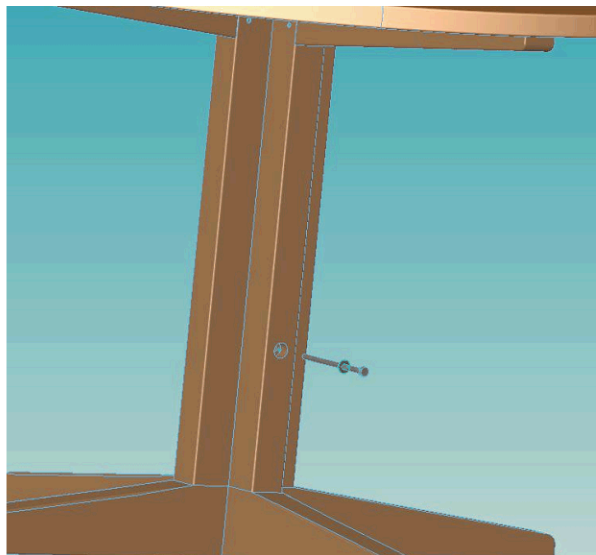

Figure 6 - Umbrella bolt installation
15. Install 1/4-20 x 5" Hex Head Cap Screw and 1/4" washer as shown in figure 6.